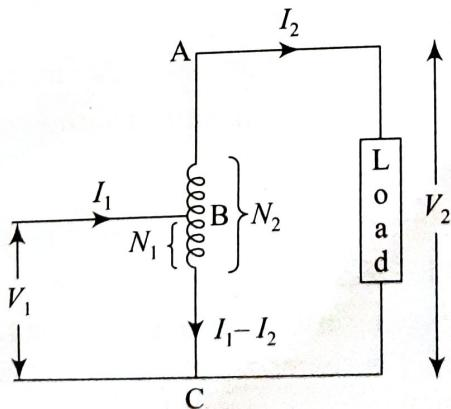

Figure 3.31 Step-up autotransformer
- (ii) **Step-up autotransformer.** Figure 3.31 shows a step-up autotransformer. If V_1 is less than V_2 or the number of turns in portion AB, i.e., $(N_1 - N_2)$, is less than the number of turns in portion BC, i.e., N_2 , it is called step-up autotransformer. The current directions are distributed as shown in Figure 3.31. According to ideal conditions